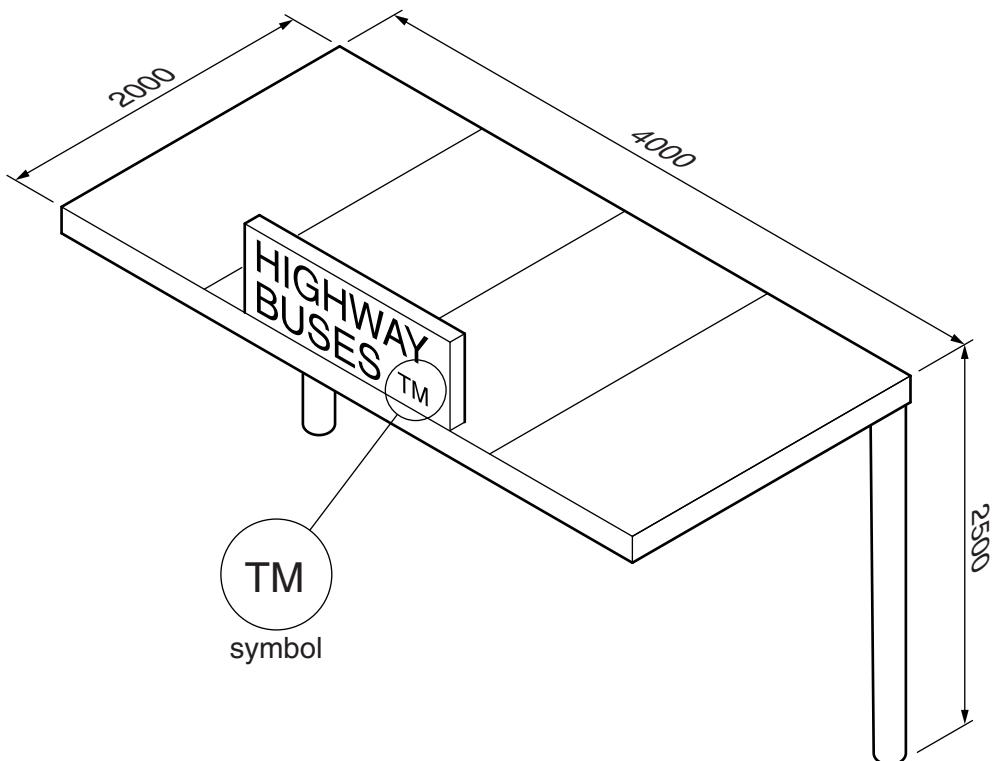

Fig. 6
- 6 Fig. 6 shows a design for a bus shelter.